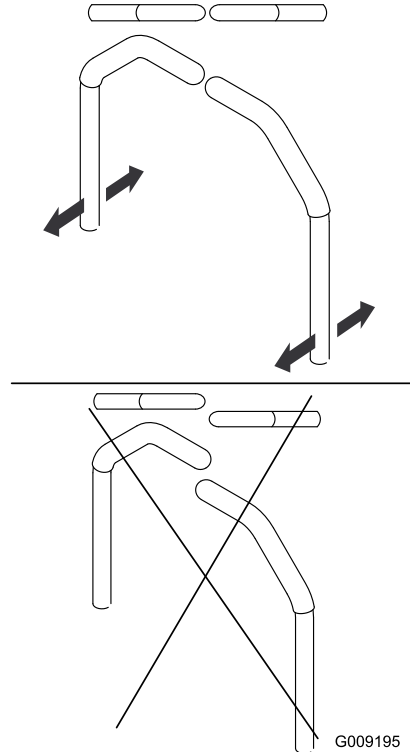

Figure 50
9. Align the levers in the front-to-rear position by bringing the levers together to the NEUTRAL position, and slide them until they are aligned, then tighten the bolts (Figure 50).